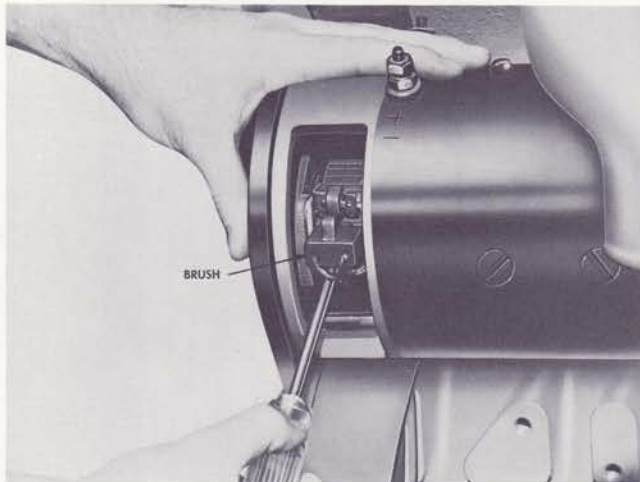

Fig. 3-15. Replacing generator brushes
2. Replace worn brushes Fig. 3-15. If brushes wear rapidly, check for incorrect brush spring tension or high mica on the commutator. Check output and action on an ammeter indicator after brush replacement.